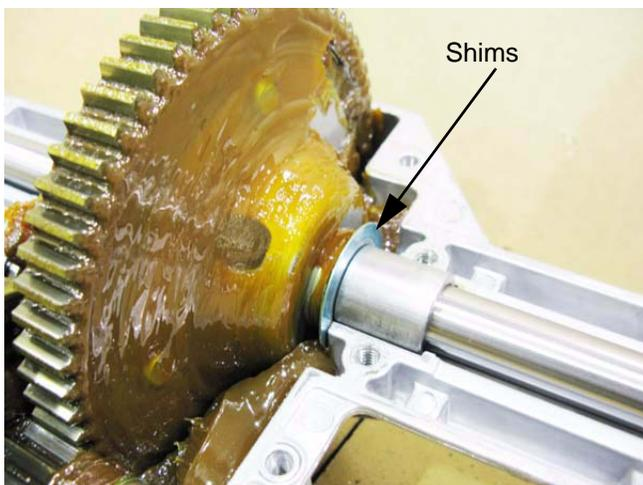

Figure 6.93
9. Lift the axle and differential housing out of the transaxle. See Figure 6.93.